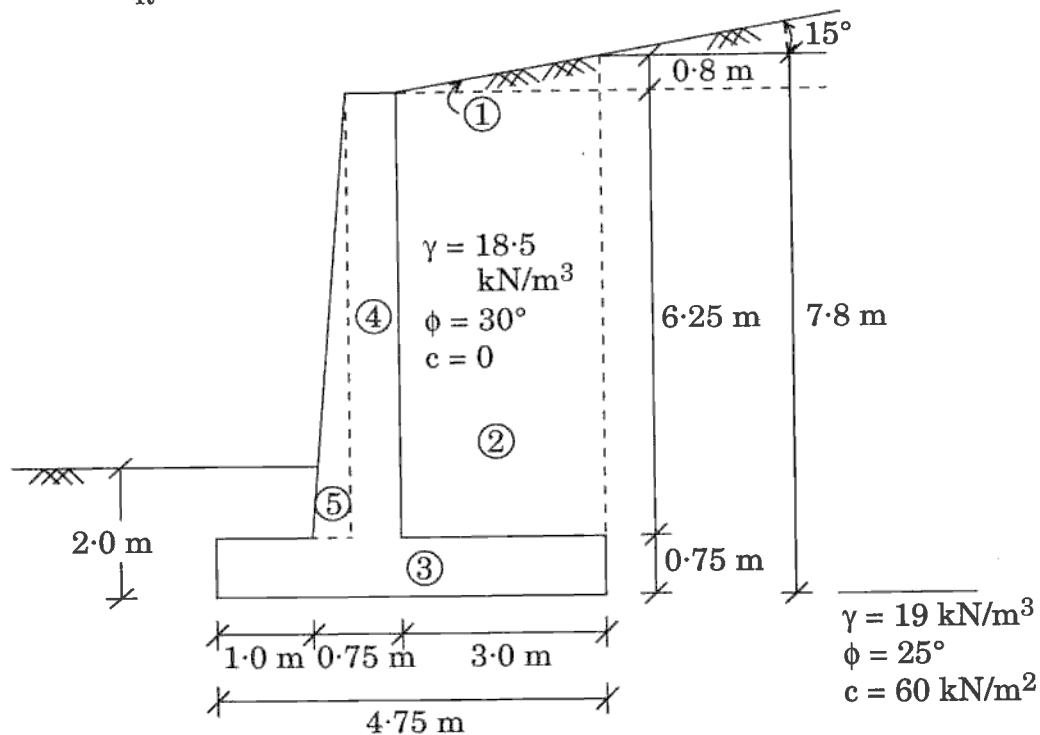

Figure 6(a)
- Q6. (a) A concrete retaining wall shown in Figure 6(a) is satisfying Rankine's condition. Check the stability of retaining wall with respect to (a) Overturning, (b) Sliding, and (c) Bearing Capacity. Neglect the passive earth pressure. Unit weight of concrete is 24 kN/m^3 . Force resisting the horizontal movement of retaining wall can be determined from $F_R = 0.55 (C)(B) + \sum V \tan \delta$.